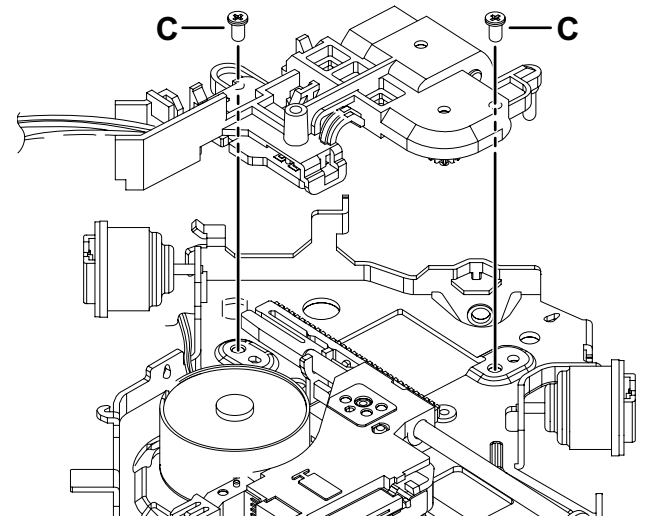

Fig.6
3.2.3 Removing the Pickup (See Fig.6, 7)
- (1) Remove the 2 screws **C** attaching the feed bracket assembly. (See Fig.6)